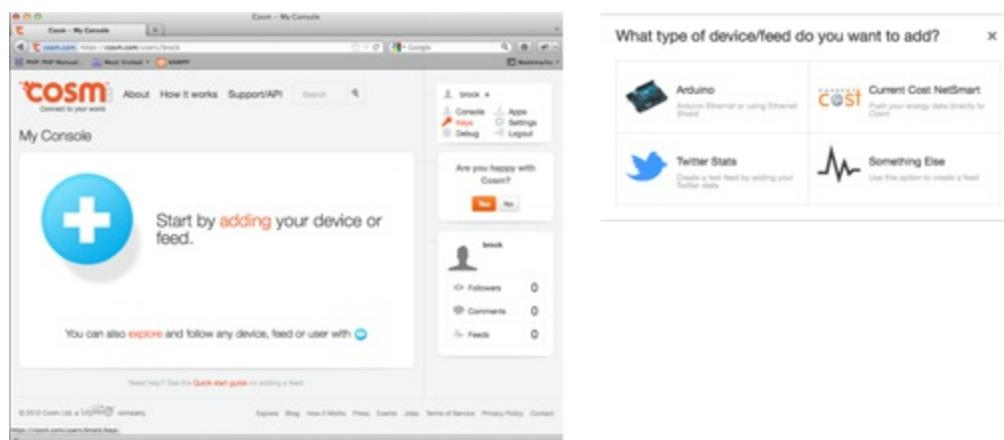

Figure 12-17: Adding a device in your Xively Developer Workbench.
2. To connect your Arduino, click the Develop button at the top of the page. On the Development Devices page, click the Add Device button, as shown in Figure 12-17.